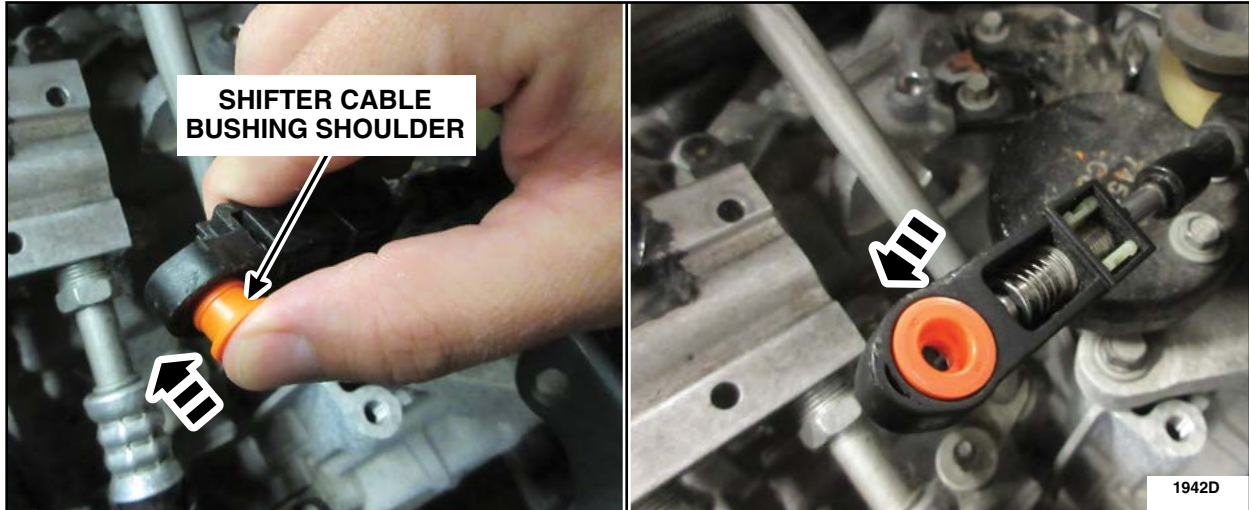

FIGURE 9
- Using your hands only, install the new selector lever cable bushing. Do not use any grease to install, the bushing and cable end should be dry. See Figure 9.